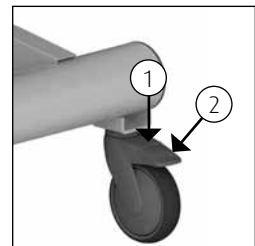

Figure 2 Wheel blocking.
- The brake can be applied on the Marina by pushing the blue lip (1) on the wheel downwards (See figure 2).
- In order to take the Marina off the brake, the same lip on the wheel must be moved upwards by tapping the upper side of the lip (2) (See figure 2).